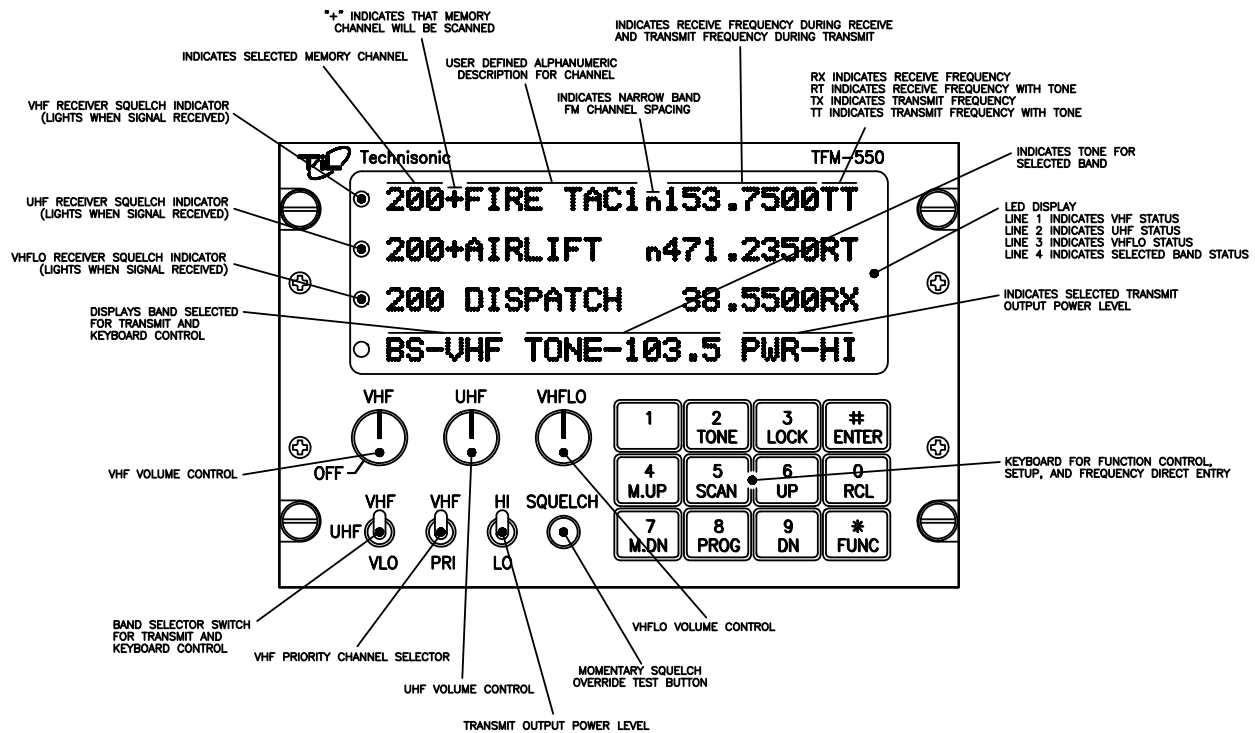

FIGURE 2.1 TFM-550 Operator's Switches and Controls
2.2 OPERATING INSTRUCTIONS (See Figure 2-1)